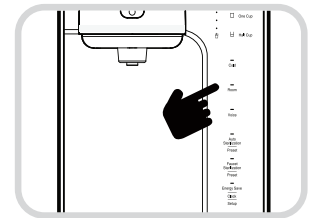

Fig. 8
- Press the Energy Save/Clock (Setup) button for three (3) seconds in the Waiting Status. The Voice Guide will say "selecting user setting mode" "user setting mode, please set function by pressing the illuminated button".
- Set the Voice Volume Step by pressing the Room water button. (Fig. 8).